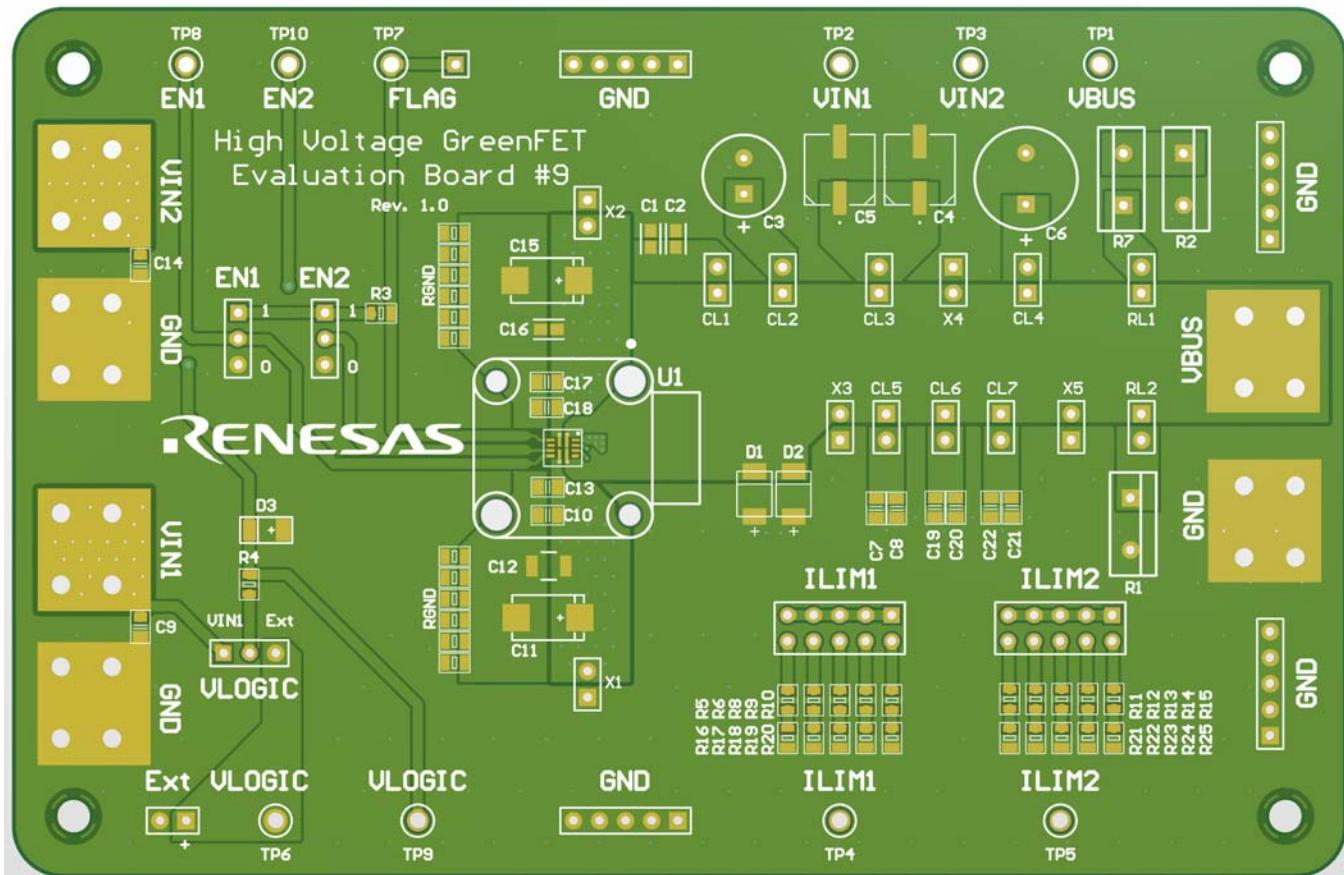

Figure 16. SLG59H1405V Evaluation Board
1. Since the $VIN[1,2]$ and V_{BUS} pins dissipate most of the heat generated during high-load current operation, it is highly recommended to make power traces as short, direct, and wide as possible. A good practice is to make power traces with an absolute minimum widths of 15 mils (0.381 mm) per Ampere. A representative layout, shown in Figure 16, illustrates proper techniques for heat to transfer as efficiently as possible out of the device;
A High Voltage GreenFET Evaluation Board for SLG59H1405V is designed according to the statements above and is illustrated on Figure 16. Please note that evaluation board has VIN[1,2]_Sense and VBUS_Sense pads. They cannot carry high currents and dedicated only for RDS_{ON}[1,2] evaluation.